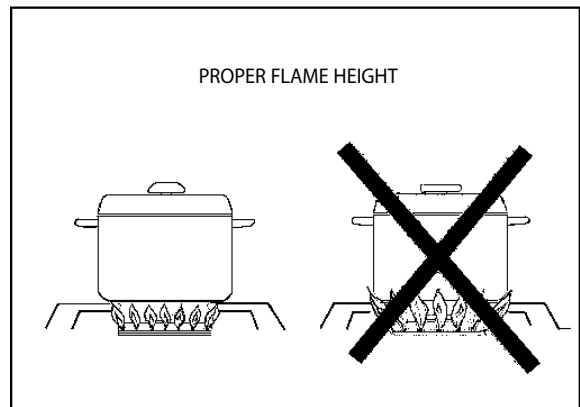

Fig. 05
- For safety reasons the flame must never extend beyond the bottom of the cooking utensil. Never allow flames to curl up the side of the pan (see Fig. 05). This will discolor or damage the utensil.